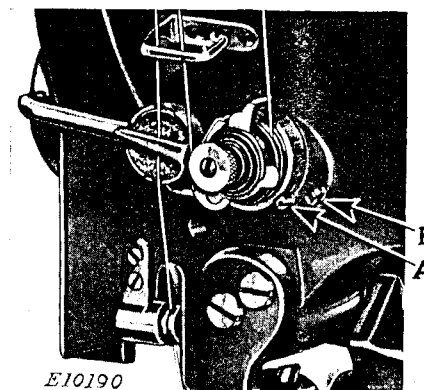

Fig. 27. Adjustments on Thread Controller
For more controller action on the thread, loosen the stop screw (A, Fig. 27) at the right of the tension and set the stop lower, and for less action set the stop higher, then tighten the stop screw (A).
To strengthen the action of the controller spring on the thread, loosen the tension stud screw (B, Fig. 27) at the right of the stop screw and turn the tension stud slightly to the left with a screwdriver, or to lighten its action turn to the right and tighten the tension stud screw (B).